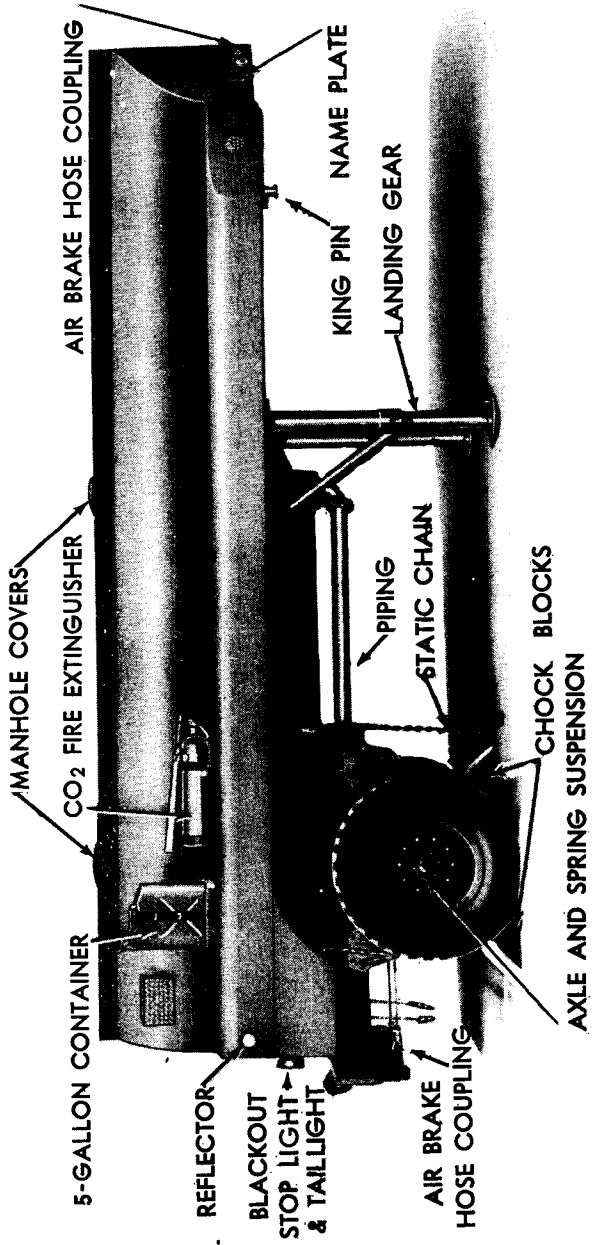

Figure 1—Semitrailer—Right Side View
3. DESCRIPTION (figs. 1, 2, 3, and 4).